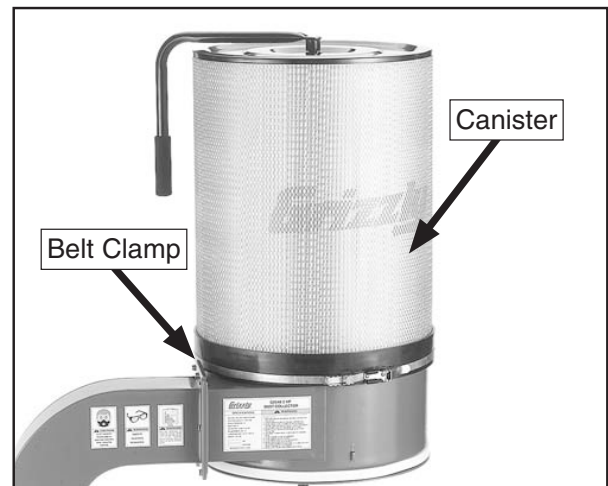

Figure 23. Canister installed.
11. Place the belt clamp around the base of the canister, place the canister over the collector, then tighten the belt clamp so it evenly compresses against the wide foam strip, as shown in **Figure 23**.
12. Apply the 6 x 20mm narrow foam strip to the bottom of the collector, then trim the excess and evenly match the ends (see **Figure 23**).